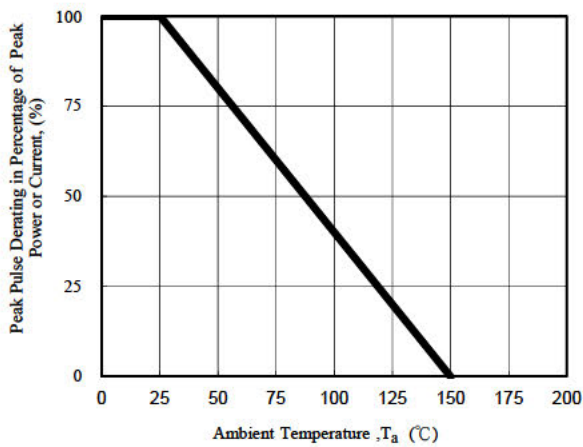
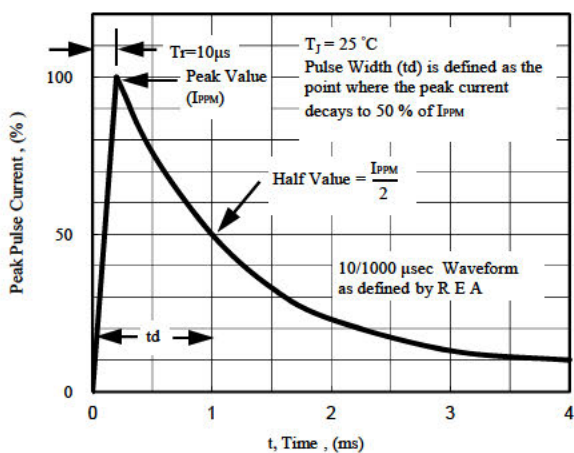

Fig. 1 - Pulse Derating Curve
Fig. 5 - Pulse Waveform
1. Non-repetitive current pulse per Fig. 5 and derated above Ta = 25°C per Fig. 1